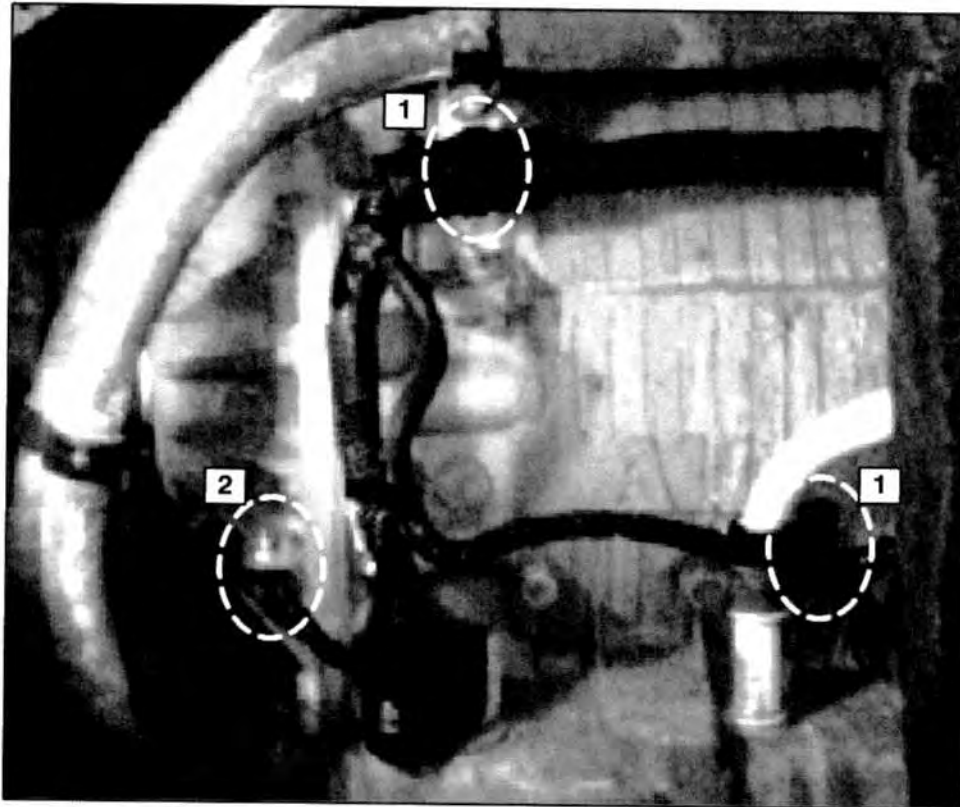

Figure 7.
7. Route and secure the harness as shown in Figure 7.